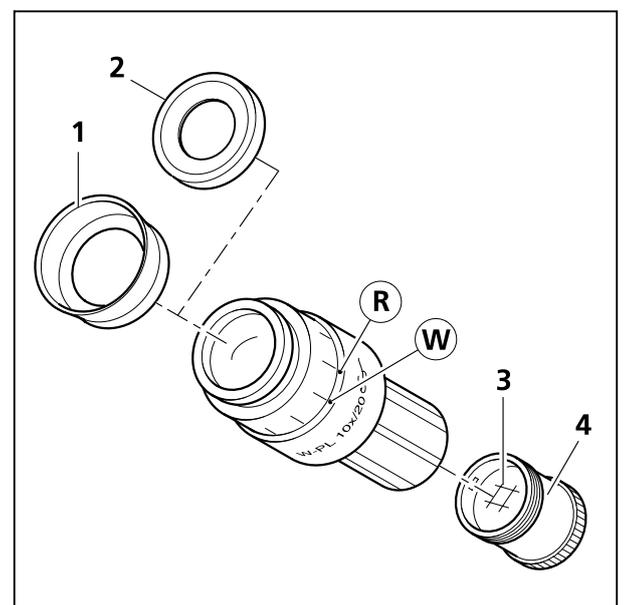

Fig. 16 Inserting the eyepiece reticle
The eyepieces have a rubber ring each to protect the lenses of spectacles against scratches. The protection rings can be replaced with fold-over eyecups (Fig. 16/1) when required.
- Remove the protection rings (Fig. 16/2) from the eyepieces and attach the eyecups (Fig. 16/1).
The slight image shift caused by the additional path through glass is taken into account on the diopter scale by the fact that the zero point position is indicated not by the white dot (Fig. 16/W), but the red dot (Fig. 16/R).
In the eyepiece W-PL 10x/23 Br. foc. (455043-0000-000) and E-PL 10x/20 Br. Foc. (444132-9902-000) the eyepiece reticles (Fig. 16/3) have been adhered to screw-in mounts (Fig. 16/4) by the manufacturer for easy replacement. Complete mounts with reticles adhered can be ordered directly from Zeiss.
- Unscrew the existing mount (Fig. 16/4) with eyepiece reticle (Fig. 16/3) from the eyepiece, without exerting heavy radial pressure on the diaphragm unit in order to avoid deformation and jamming. Replace it with a new mount containing the eyepiece reticle required.